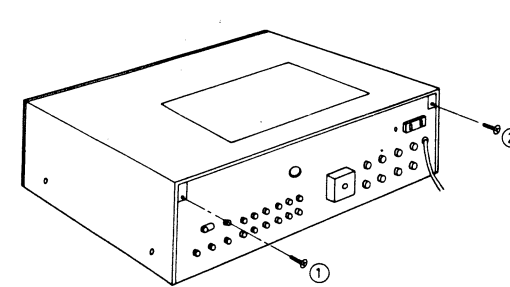

Fig. 7
1. Remove the two cabinet mounting screws (nos ①, ② screws in fig. 7).